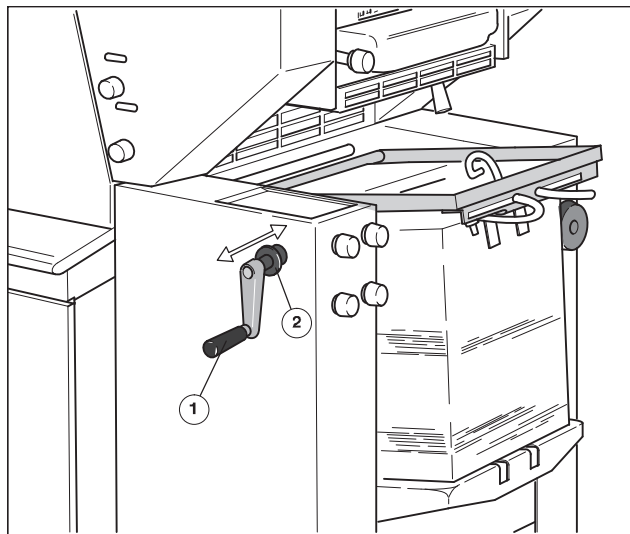

Fig. 1 Pile transport
By engaging the **crank handle** (Fig. 1/1), the feeder pile board can be moved upwards or downwards.
1. Turn the crank handle (Fig. 1/1) on O.S. to move the pile board upwards or downwards.
2. By pushing in/pulling out the **bush** (Fig. 1/2) you can alter the speed by which the pile is moved from slow to fast and vice versa.